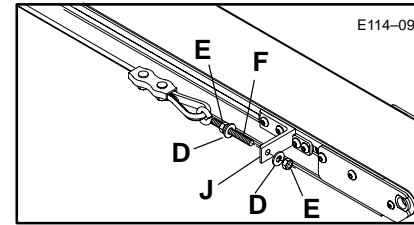

Figure 9: Pull Cord Attachment Detail
- i. Refer to Figure 9 and assemble Eye Bolt to End Fitting Mounting Bracket with hardware provided. Once Pull Cord is attached to the End Fitting Mounting Bracket, Rope tension and associated switch contact positioning must be established using the information provided under step 9 (see page 5).